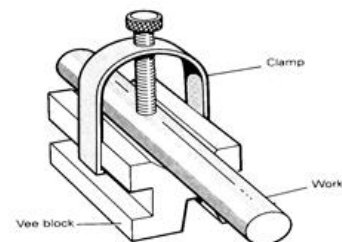

Fig.4.30. Using the Vee block.
1. The try square has angles of  $45^\circ$  and  $90^\circ$ , which you can use to mark out, or to check that a surface is vertical. You can also use it as a square (Figure 4.30(a)).
2. You can use the center square to find the center of circular pieces (Figure 4.30 (b)).
3. You use the protractor with the rule to mark out or measure angular surfaces (Fig 4.30 (c)).